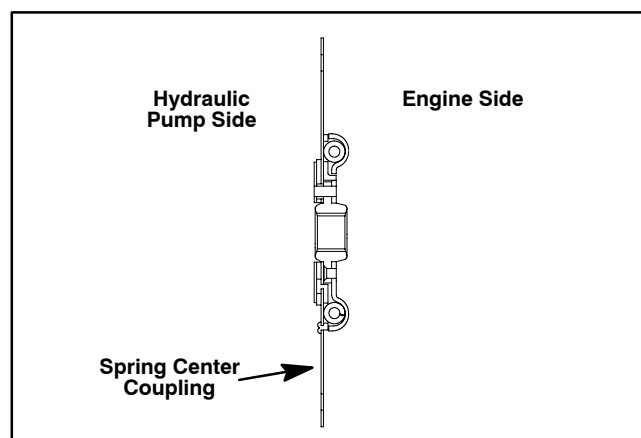

Figure 20
4. Position spring center coupling (coil springs toward engine (Fig. 20)) over dowels. Secure coupling to coupling spacer with cap screws and lockwashers. Torque cap screws from 35 to 43 ft-lb (48 to 58 N-m).